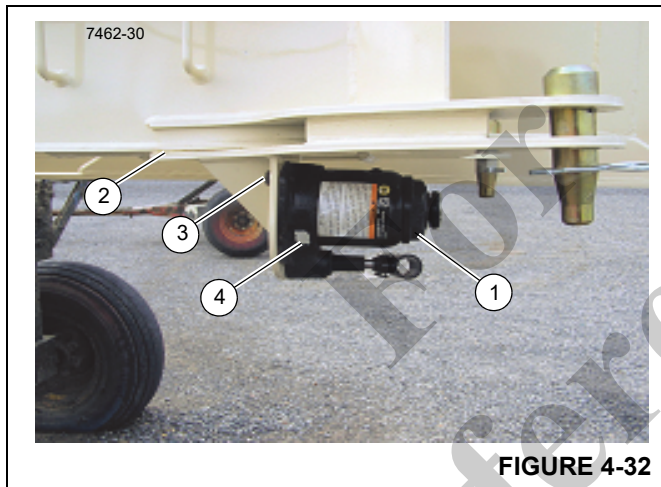

FIGURE 4-32
1. With saddle fully lowered and piston depressed, set jack in its upright level position and remove oil filler plug. (4, Figure 4-32).
2. To drain the oil, remove the filler plug (4, Figure 4-32).